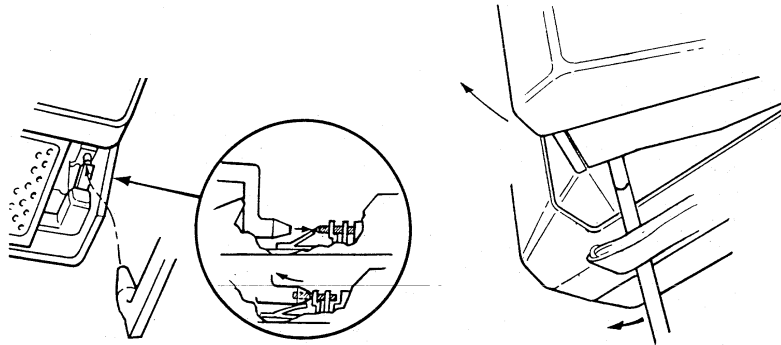

Figure 3-10 Removing Top Cover from the Spectra Camera
1. Remove the Top Cover from the Camera (see Figure 3-10)
1. Remove the Top Cover from the camera (see Figure 3-10).
1. Remove the Top Cover from the camera, see Figure 3-10.
1. Remove the Top Cover from the Spectra Camera (see Figure 3-10).
1. Remove the Top Cover from the camera (see Figure 3-10)